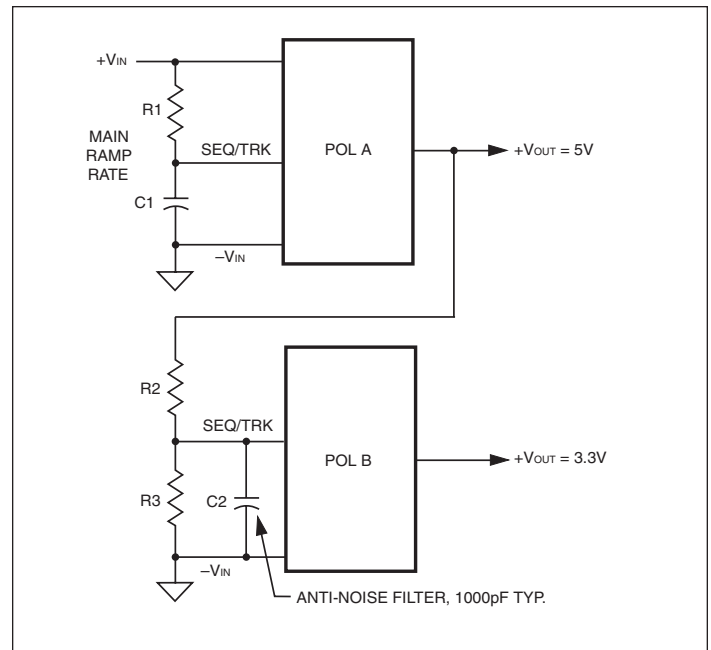

Figure 14. Proportional Phasing
Figure 14 shows both a RC ramp on Master POL A and a proportional tracking divider (R2 and R3) on POL B. We have also added an optional very small noise filter cap at C2. Figure 14's circuit corresponds roughly to Figure 9's timing for power up.
- [7] The Sequence is a sensitive input into the feedback control loop of the converter. Avoid noise and long leads on this input. Keep all wiring very short. Use shielding if necessary. Consider adding a small parallel ceramic capacitor across the Sequence/Track input (see Figure 14) to block any external high frequency noise.